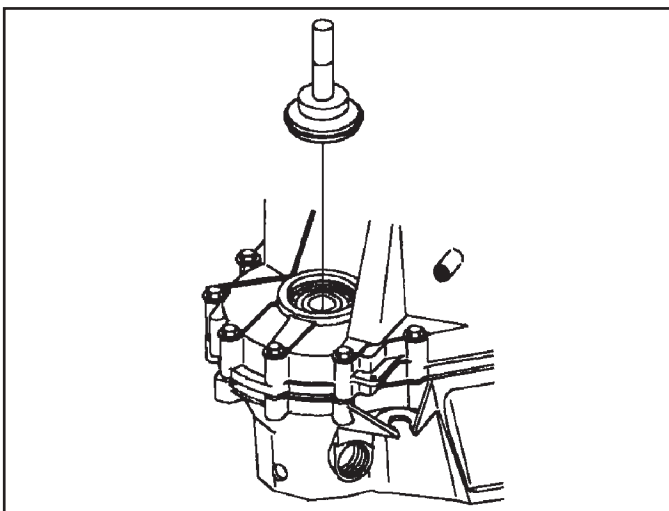

Figure 198
19. Apply sealant Loctite®515 or equivalent to area of axle seal and install new axle seals (See Figure 198).